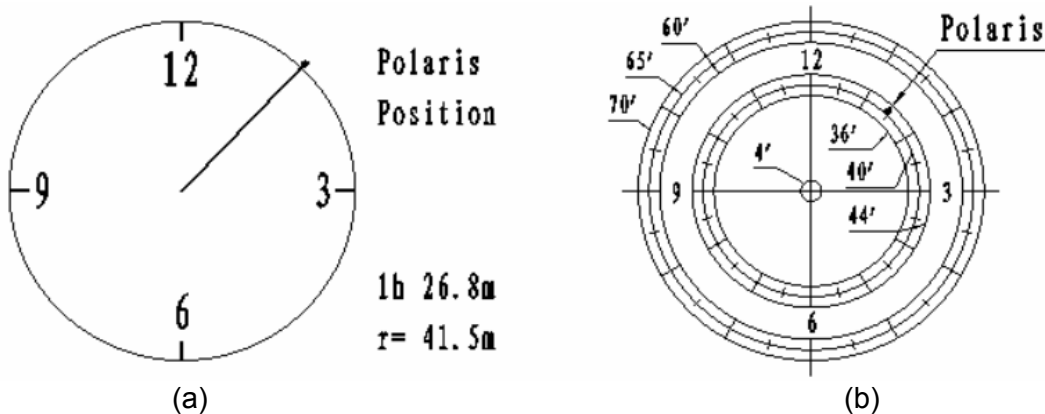

Figure 12. Place the Polaris at the position as shown on hand controller
6. Make sure that the time and site information of the hand controller is correct. Press the **MENU** button, then select "**Align**" and "**Pole Star Position**" to display the current Polaris position. For example, on May 30, 2010, 20:00:00 in Boston, United States (Lat N42°30'32" and Long W71°08'50", 300 min behind UT, DST set to Y), the Polaris Position is 1hr 26.8m and  $r = 41.5m$ , as shown in Figure 12 (a).
7. Adjust the mount in altitude (latitude) and azimuth (heading) direction to place Polaris in the same position on the Polar Scope Dial as indicated on the HC LCD. In this case, the Polaris will be located at a radius of 41.5' and an angle of 1 hour 26.8 minute, as shown in Figure 12 (b).